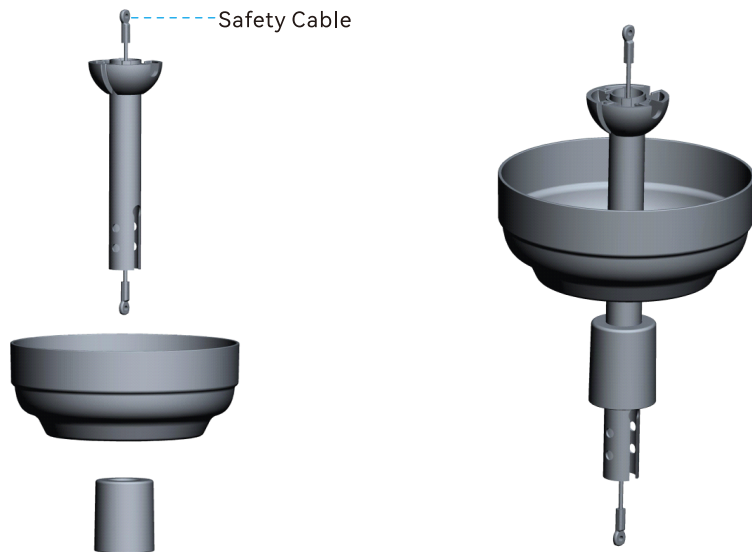

Fig 5.1
5.1 Assemble downrod as shown in Fig 5.1. Insert the downrod through the canopy and wiring cover.